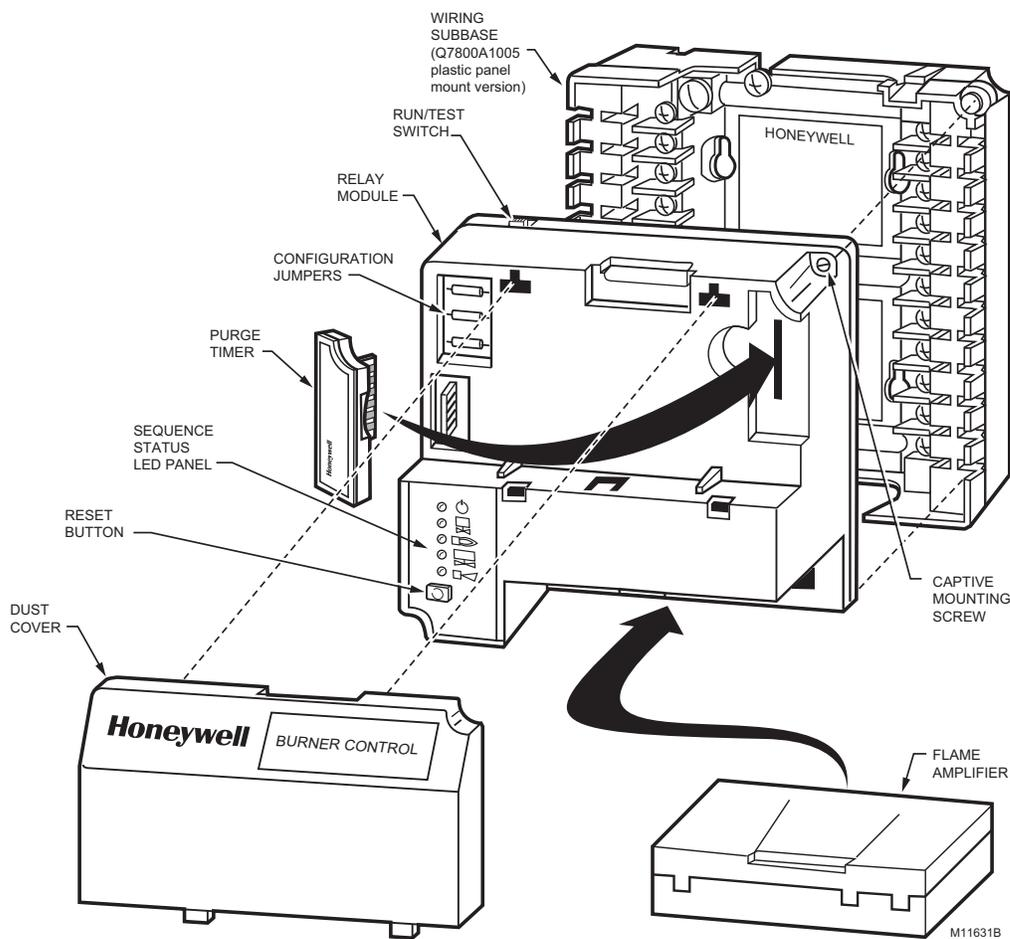

Fig. 4. 7800 SERIES Relay Module exploded view.
5. Mount other required and optional system components by referring to Fig. 4 and the instructions provided with each component.